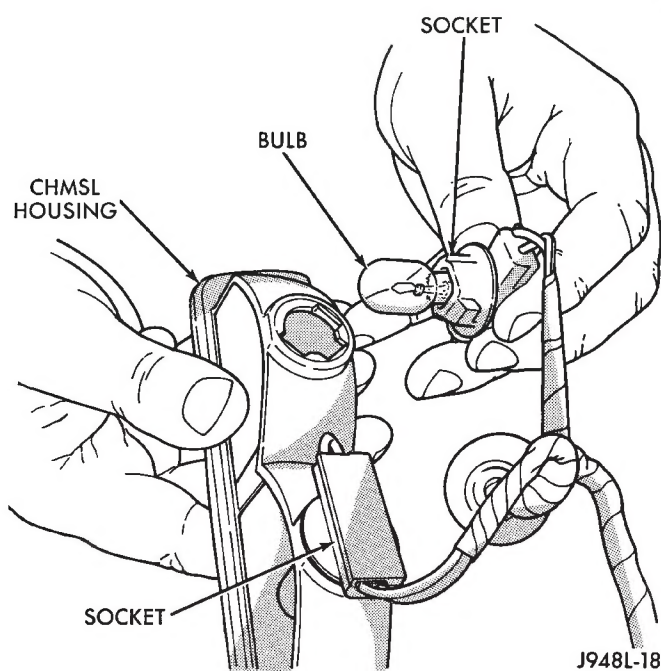

Fig. 18 Replacing CHMSL Bulb
- (2) Remove CHMSL lamp housing (Fig. 18)